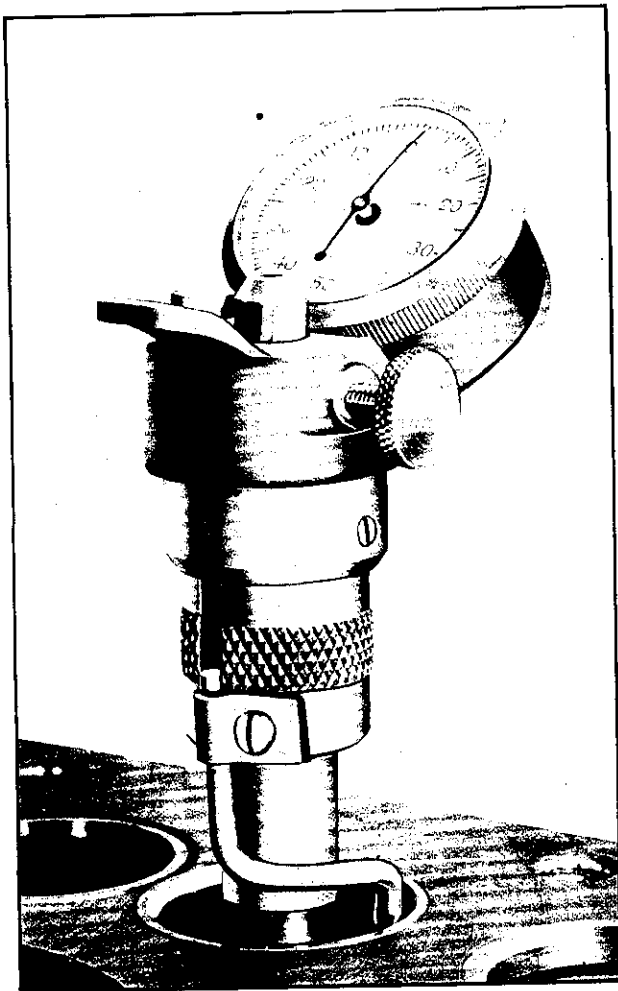

Fig. 10—Determining Concentricity of Valve Seat with Valve Guide.
5. Check valve seat for concentricity with valve guide (see Fig. 10) and, if necessary, recondition seat or seats as directed below.
The 45° grinding wheel is used for refacing the valve seats, and the other wheels are used for narrowing the seats to the standard  $\frac{3}{64}$ " to  $\frac{5}{64}$ " width. After the valve seats have been dressed with the grinding wheel, the dial gauge, shown in Fig. 10, is used to check the concentricity of the valve seats relative to